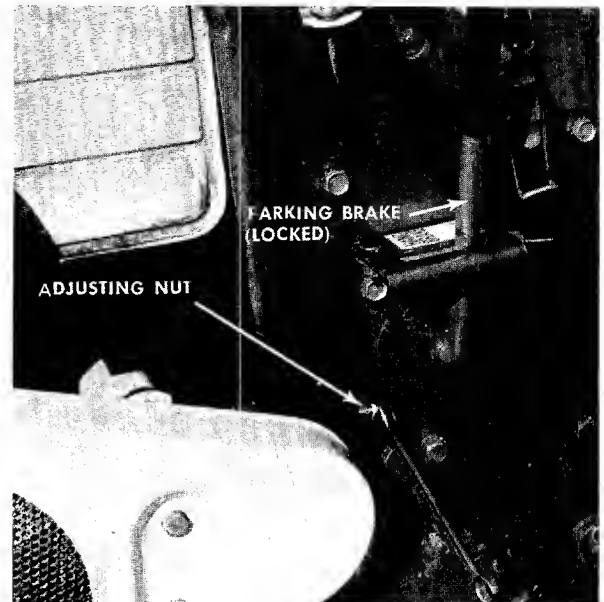

FIGURE 29. PARKING BRAKE ADJUSTMENT
Step 1. To adjust the parking brake, set the parking brake in the lock position as shown in figure 29.